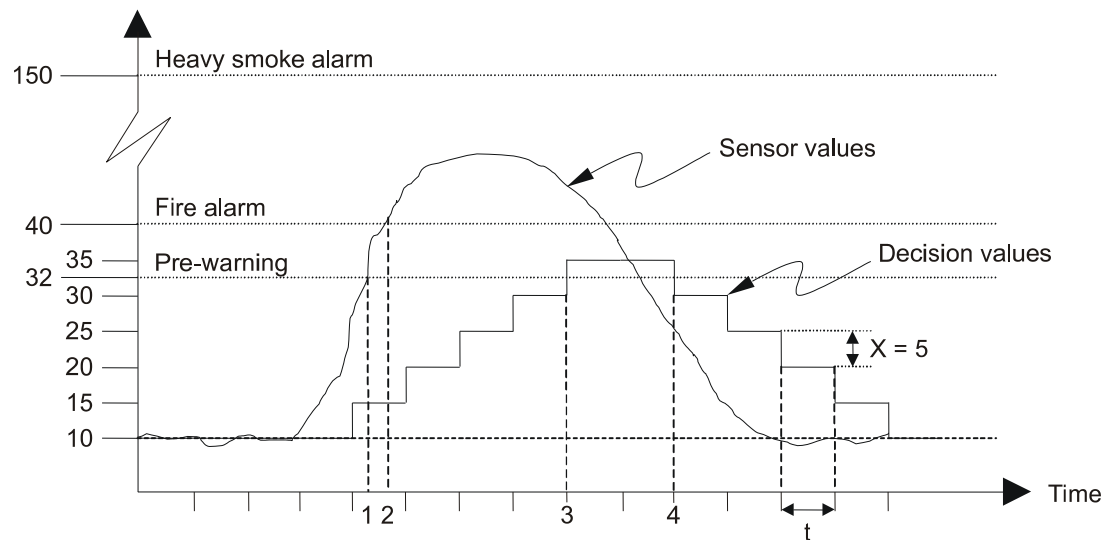

Figure 37 Filtering algorithm example for analogue smoke detector
Figure 37 shows an example of the filtering algorithm for an Analogue smoke detector with the step value $X = 5$. The polling time (t) in this example is approx. 2.56 seconds.
Explanations to the Figure 37:
In this example, alarm algorithm "N-15" is selected, i.e. normal detection time 15 sec. and normal sensitivity 3% (30). $X = 5$. The detector polling time $t \approx 2.56$ sec. (**In system FT1020G3** the detector polling time $t \approx 7$ seconds and the step value "X" is according to Figure 37– but the **principle** is the same.)
Refer to Figure 37, these comments refer to the numbered points on the graph: